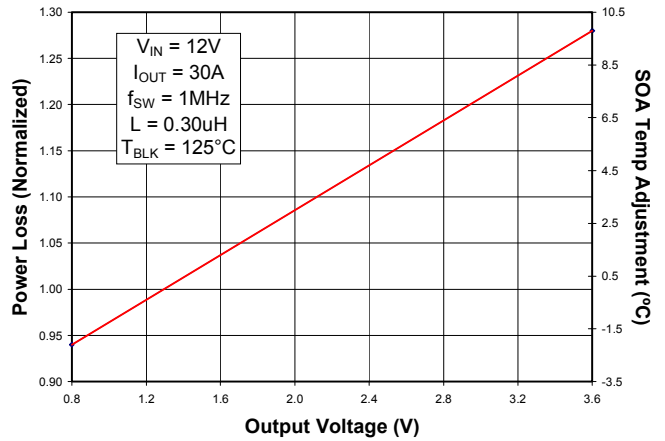

Fig. 4: Normalized Power Loss vs. V_{OUT}
- (Fig. 4) Normalized power loss for output voltage \approx 1.24
- (Fig. 4) Normalized SOA Temperature for output voltage $\approx 8.4^\circ\text{C}$